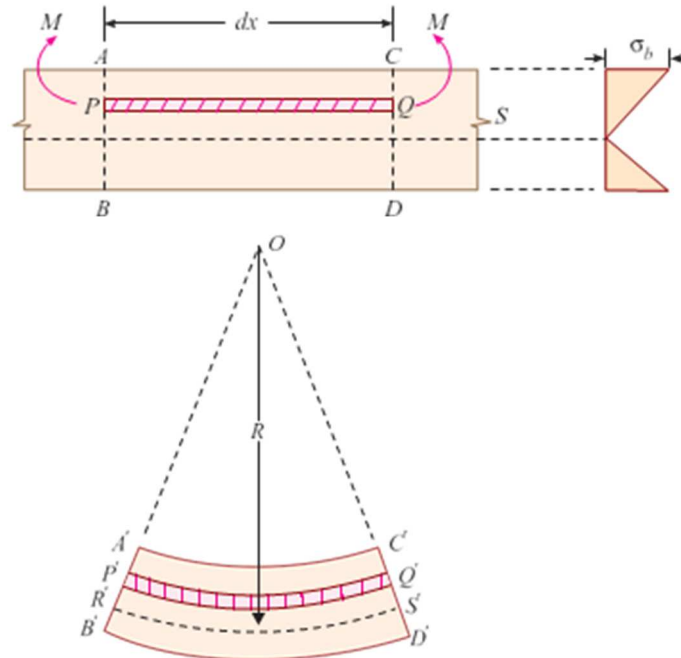

Figure Q4.(a)
- ii. Figure Q4 (a) shows a beam PQ before and after being subjected to pure bending where all the symbols have the usual meaning.